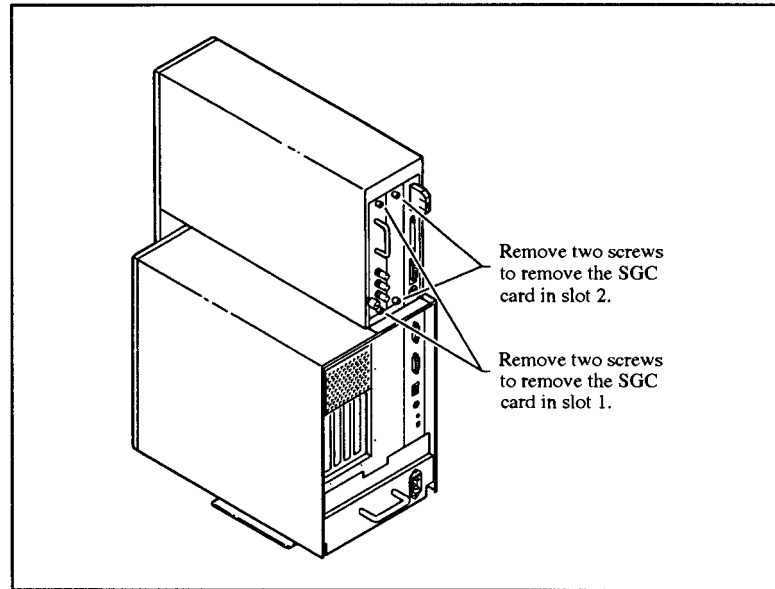

Figure 5a-1. SGC Graphics Card Removal
- 2). Remove the SGC Graphics card from the appropriate slot in the System Unit cabinet as shown in Figure 5a-1.